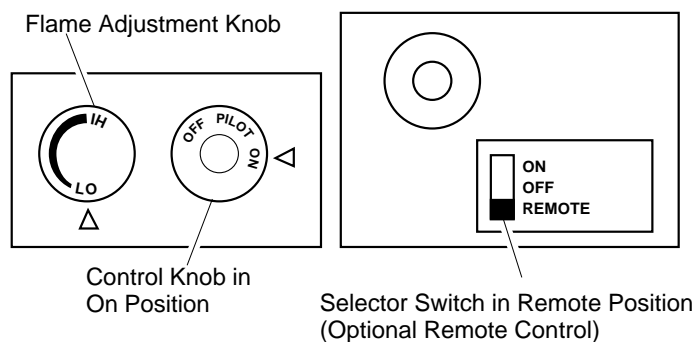

Figure 27 - Setting the Selector Switch, Control Knob, and Flame Adjustment Knob for Remote Operation
1. After lighting, let pilot flame burn for about one minute. Turn control knob to ON position. Adjust flame adjustment knob anywhere between HI and LO. Slide the selector switch to the REMOTE position (see Figure 27). **Note:** The burners may light if hand-held remote ON button was on when selector switch was last turned off. You can now turn the burners on and off with the hand-held remote control unit. **IMPORTANT:** Do not leave the selector switch in the REMOTE position when the pilot is not lit. This will drain the battery. **IMPORTANT:** Be sure to press the ON/OFF buttons on the hand-held remote control unit for up to 3 seconds to assure proper operation.